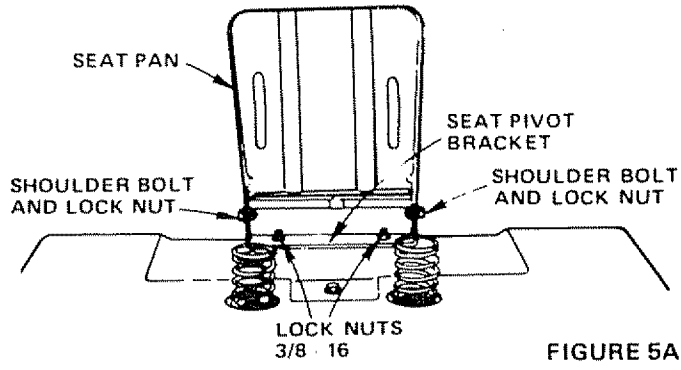

FIGURE 5A
- a. Mount Seat Pivot Bracket to Fender Strap Studs using two Lock Nuts 3/8 - 16 (Fig. 5A). Seat Pivot Bracket and Lock Nuts found in Bag of Parts. Tighten Nuts securely.
- b. Mount Seat Pan to Seat Pivot Bracket using two Shoulder Bolts 5/16 - 18 and two Lock Nuts 5/16 - 18 (Fig. 5A) (head of Bolts to outside). Bolts and Lock Nuts found in Bag of Parts. Tighten Bolts and Nuts securely.